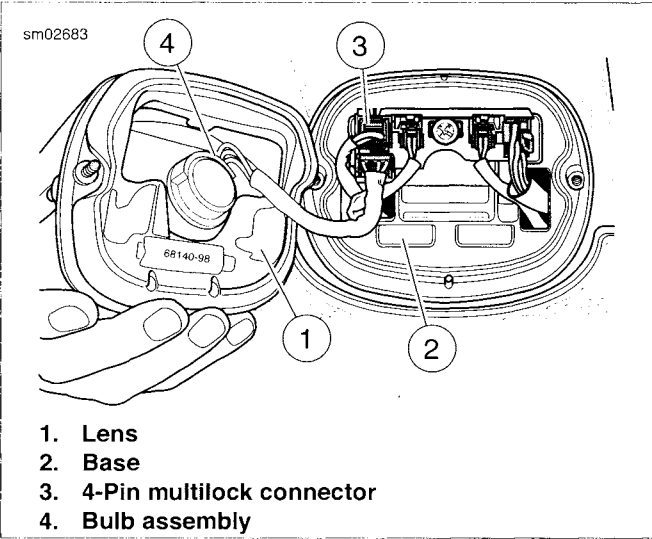

Figure 7-30. Tail Lamp: FLST, FLSTC, FLSTF/B
- 1. See Figure 7-30. Remove two screws and lens (1) from base.
- 2. Press locking tab and remove 4-Pin multilock connector (3) from circuit board.